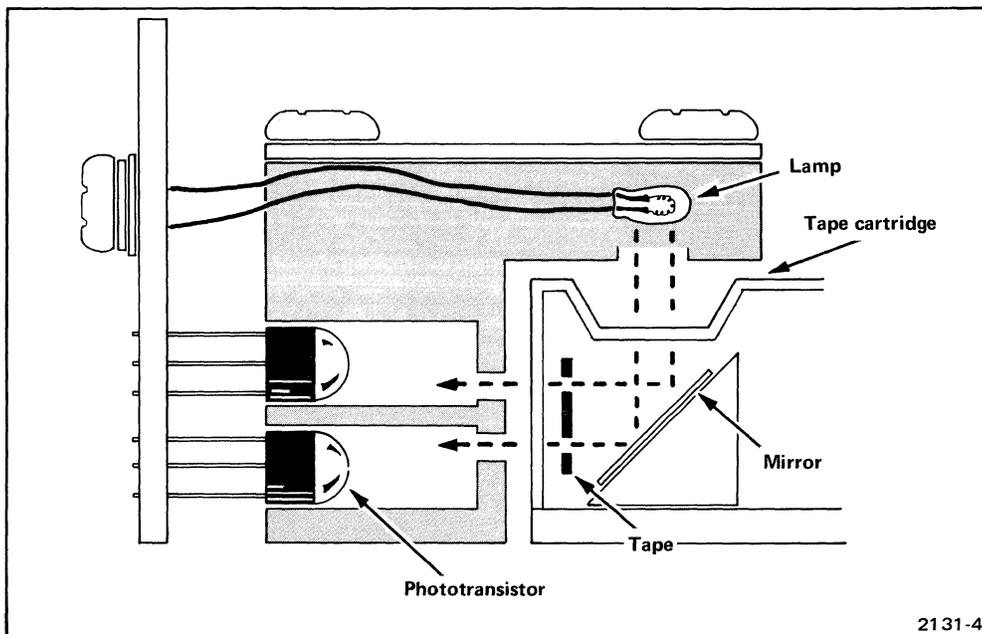

Fig. 2-3. Position Marker Sensing.
Each data cartridge provides 300 feet of usable storage space. Beginning of Tape (BOT), Load Point (LP), Early Warning, and End of Tape (EOT) markers are provided by specially placed holes in the tape. These holes are sensed by a lamp-mirror-phototransistor arrangement. (See Fig. 2-3).